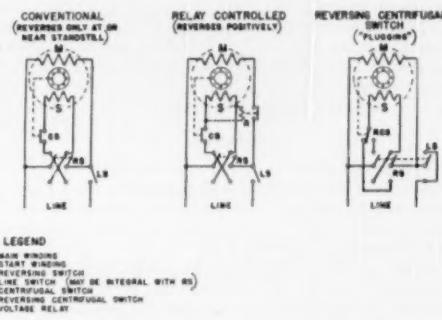
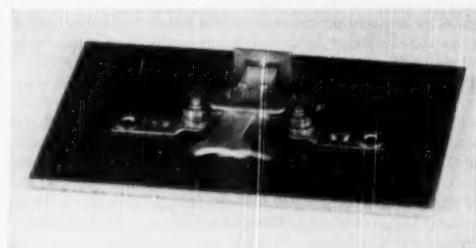

FIG. 24 SINGLE-PHASE INDUCTION-MOTOR REVERSING METHODS
FIG. 25 CENTRIFUGAL REVERSING SWITCH FOR "PLUGGING" SPLIT-PHASE MOTOR
(Reversing centrifugal switch of right-hand diagram same as Fig. 25.)
Reversing Split-Phase or Capacitor-Start Motors. The conventional reversing method is the double-pole double-throw start-winding switch plus a line switch. This is the left-hand diagram in Fig. 24, and requires the motor to slow down to low speed to operate with either the centrifugal mechanism or current relay.
If the motor is to be "plugged" (instantaneously reversed), a proprietary centrifugal switch is available as shown in Fig. 25. The same number of switch blades are required (right-hand diagram, Fig. 24), but full power reversal is possible because of the presence of alternate contacts on the start switch. The
Another use of the induced voltage in the start winding to guarantee reversal directions is shown in the middle diagram, Fig. 24, where a relay directly across the start winding operates series contacts in the main winding (18). This method as with the voltage starting relay also uses the induced voltage to hold the relay in after the centrifugal switch cuts out. Reversing then can be done any time by switching the motor coasting down to the centrifugal reset speed before power is again applied. However, the direction is always predicted (see reference 17, for further reversing circuits).